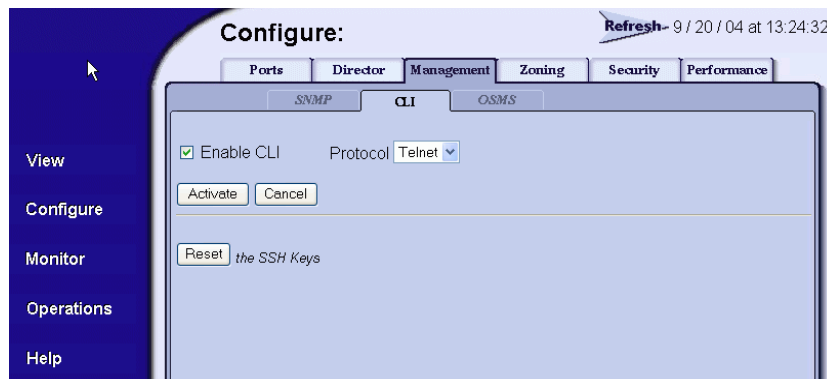

Figure 2-73 Configure Panel (Management Page with CLI Tab)
1. At the *Configure* panel, click the *CLI* tab. The *Management* page displays with the *CLI* tab selected (Figure 2-73).